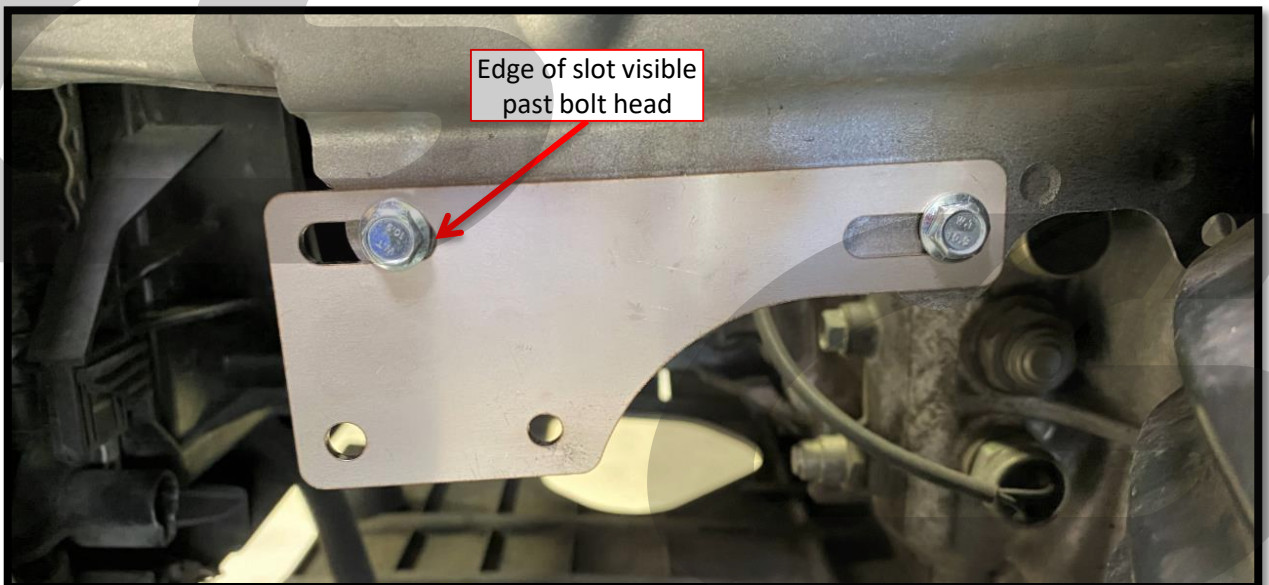

Figure 4b
- Install the supplied lower side bracket as shown in **Figure 4b** with two of the supplied M6x1.0x16mm bolts. Ensure the bracket is in the orientation shown and the bolts are approximately $\frac{3}{4}$ " of the way to the rear of the slot as shown (the end of the slot should be visible past the bolt). Leave these bolts loose for now.